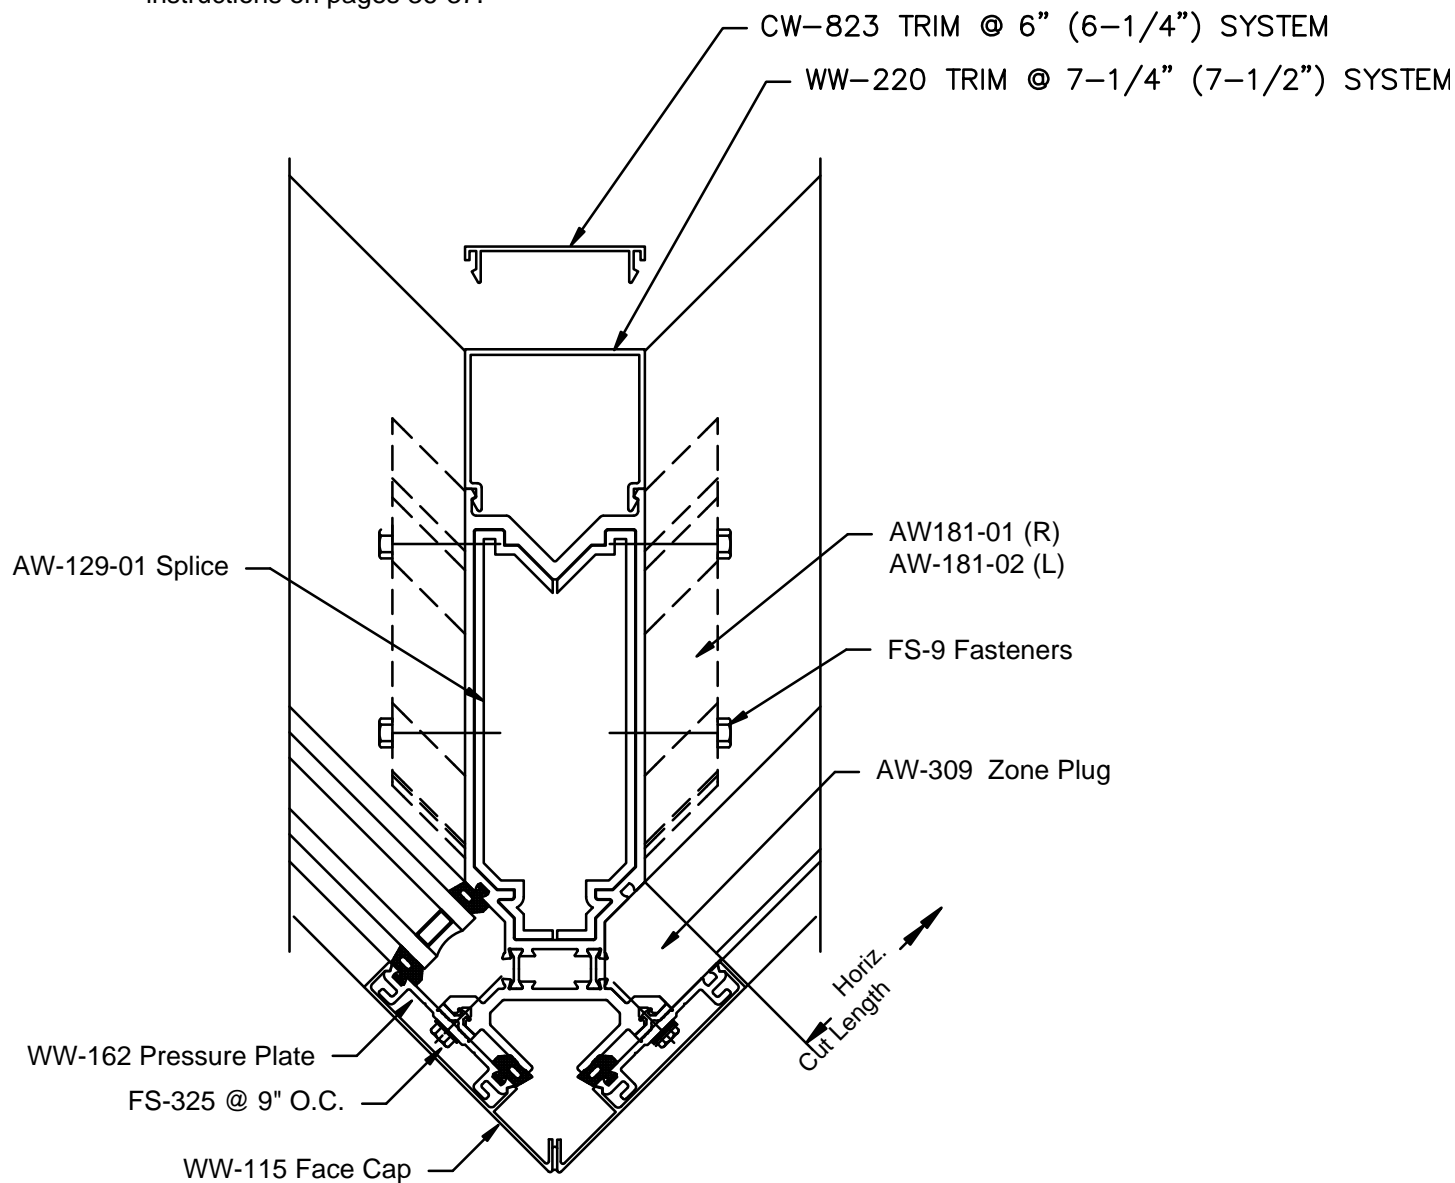

FIGURE 32
- 4.3 Attach AW-181-01/02 shear blocks to mullion using (2) FS-9 #14 x 1 1/2" HH STS. Horizontal to be mitered at 45 degrees from edge of vertical as shown in **FIGURE 32**.